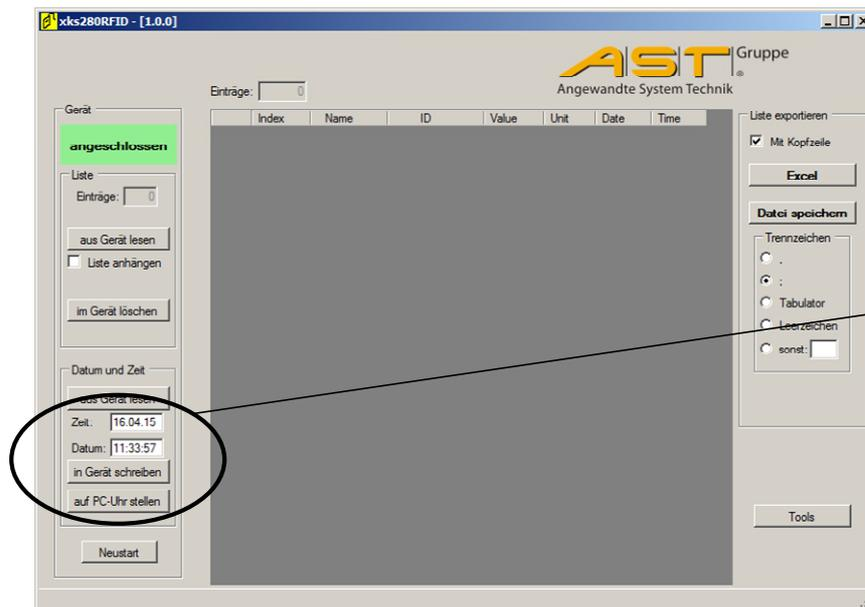

Figure 8: Software “xks280”: Setting the clock on the Data Logger
- Restarting of appliance (refer to Figure 8) on bottom right-hand side of the displayed image.